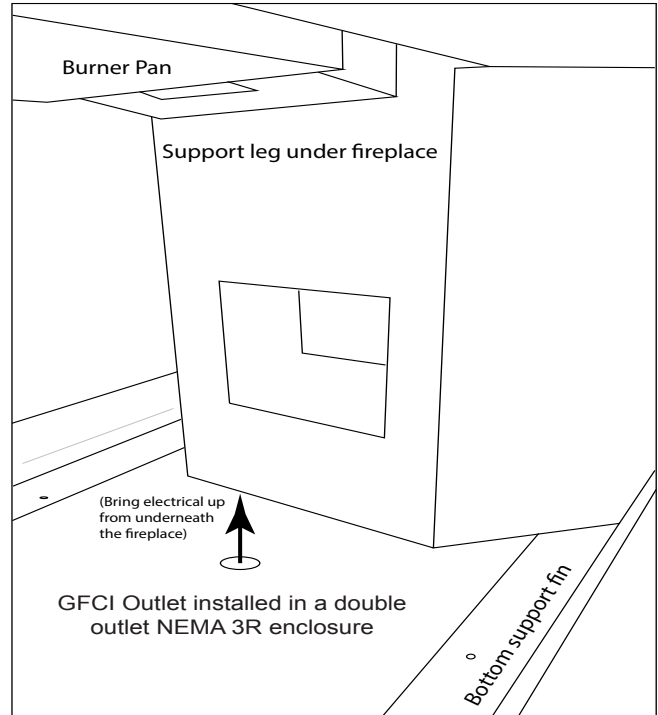
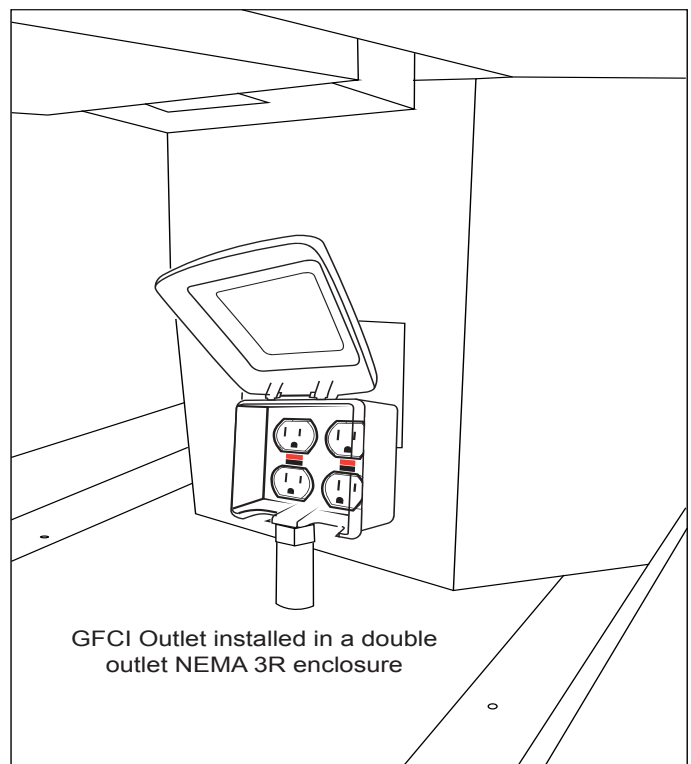

Fig. 14 GFCI box location under fireplace
Fig. 15 Show GFCI box mounted in fireplace
**Note:** This is not a requirement; however, with the gang box on the opposite side of inlet will create more room for LED installation. Fig. 15 shows GFCI gang box installed.
**Step 2:** Find mounting location for the GFCI gang box. Fig. 14 shows flat area underneath burner pan. Mount box underneath the burner pan, below the square (cutout) hole area. Fig. 15 shows the GFCI outlet double gang junction box with a weatherproof cover mounted underneath the fireplace.